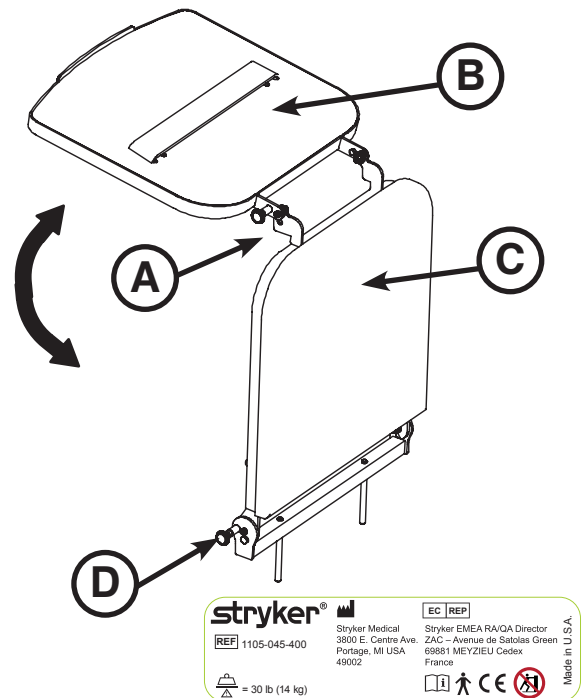

Figure 43: Optional Foot Extension/Defibrillator Tray - Foot End
To use as a defibrillator tray, pull out the top knob (A) and pivot the tray (B) over the foot extension (C) until the tray extends flat over the foot end of the stretcher as shown in Figure 43.
To use as a foot extension, pull out knob (A) and pivot the defibrillator tray back until it locks against the foot extension (C). While holding onto the assembly, pull out the bottom knob (D) and lower the foot extension until it is flat as shown in Figure 43.